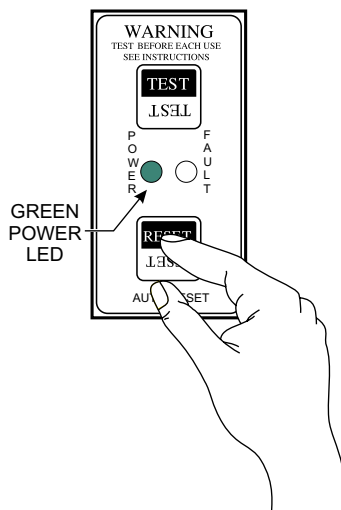

Figure 44. GFCI Sensing Module (Green LED ON)
3. Press the **RESET** button on the GFCI sensing module (Figure 44) and verify that the **GREEN** power LED is **ON**.